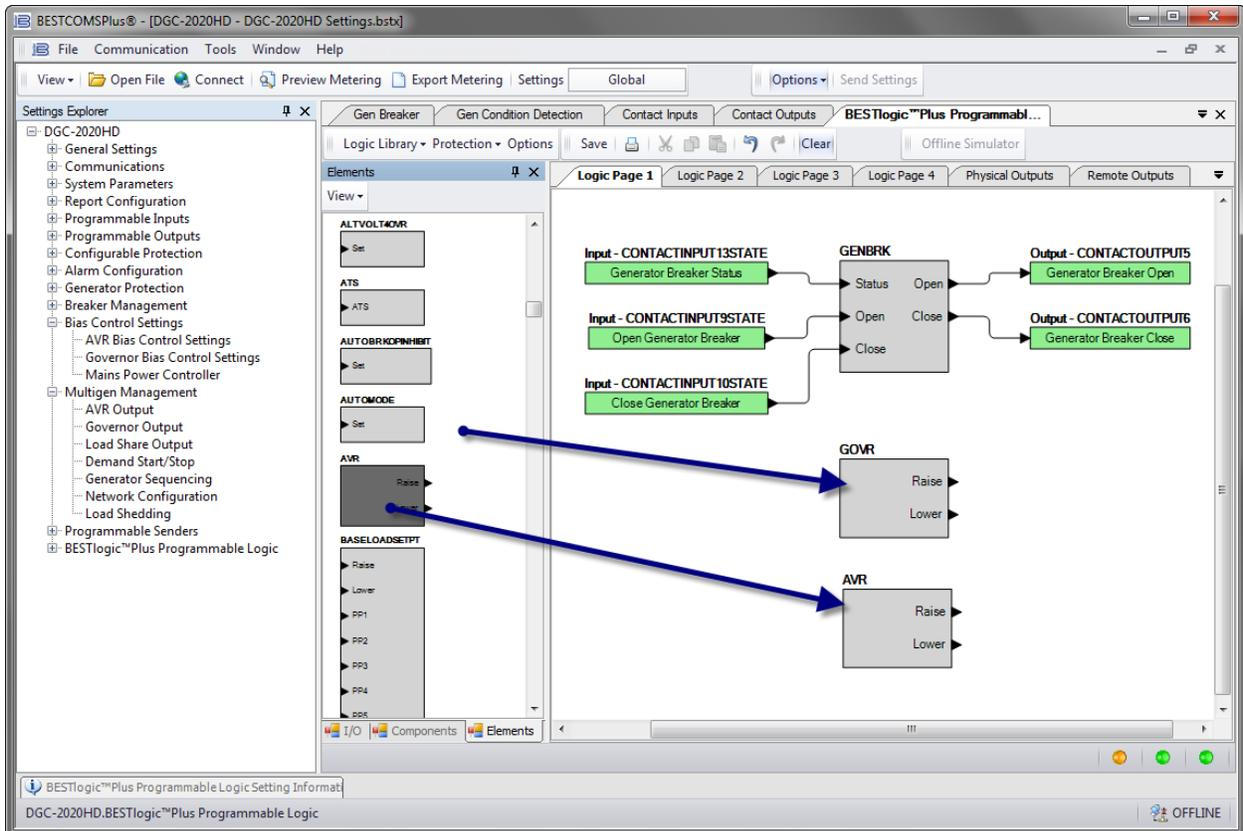

Figure 13-12. Synchronizer Setup in BESTLogicPlus Step 27
27. If using analog outputs to bias the voltage regulator and governor, no further setup is necessary. If using output contacts, they must be set up to drive these functions. In *BESTlogicPlus* programmable logic, click on the Elements tab. Drag the GOVR and AVR logic blocks into the main logic screen. See Figure 13-12.